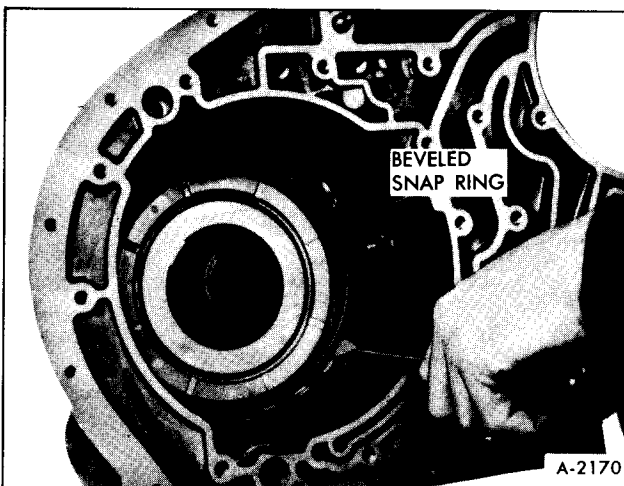

Figure 46—Center Support Snap Ring
4. Using a needle-nose pliers, or screwdriver, remove center support to case snap ring, Figure 46.